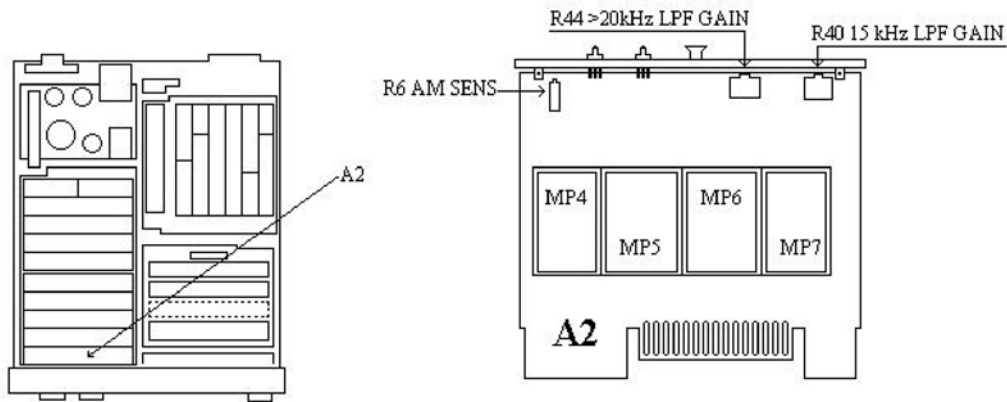
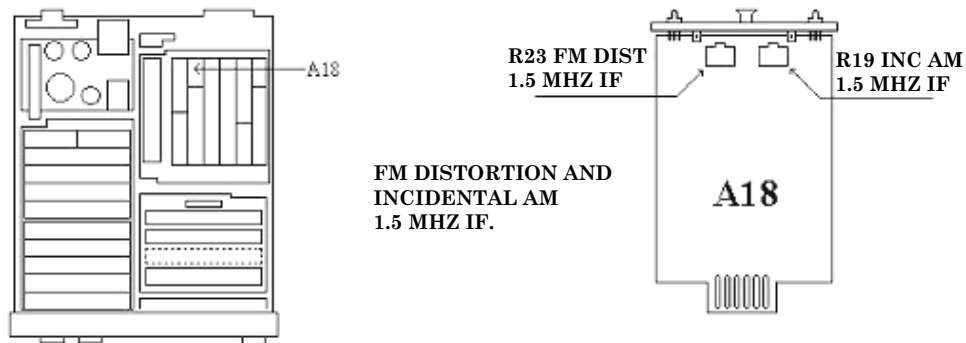
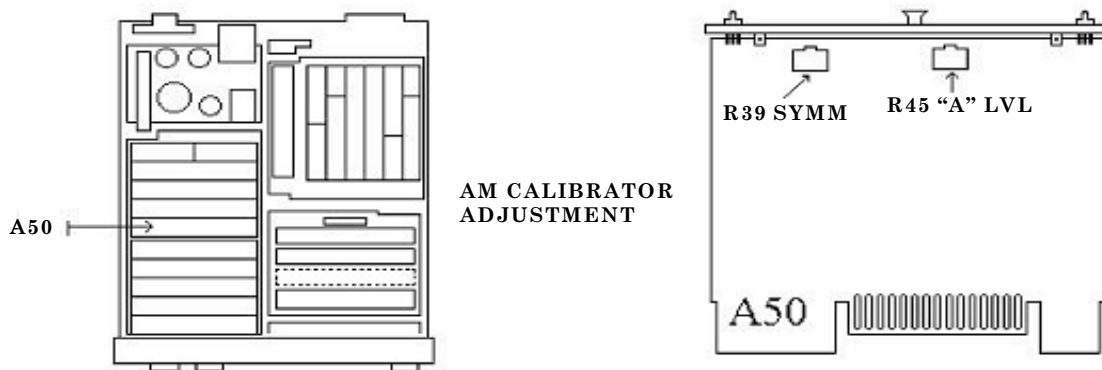

Figure 2. A2 board.
Figure 4. A18 board.
Figure 5. A50 board.
- (1) Disconnect equipment setup.
- (2) Press TI keys as listed in (a) through (f) below:
- (3) Connect TI sensor module to signal generator No. 1 **RF OUTPUT**.
- (4) Set signal generator No. 1 for an output frequency of 500 MHz at 3 dBm with 30 percent AM at a 1 kHz rate.
- (5) Adjust A2R44 >20kHz LPF GAIN (fig. 2) for a display of 99.95 to 100.05 percent (R).
- (6) Press TI **LP FILTER 15 kHz** key.
- (7) Adjust A2R40 15kHz LPF GAIN (fig. 2) for a display of 99.95 to 100.05 percent (R).
- (8) Disconnect TI sensor module from signal generator No. 1 **RF OUTPUT**.
- (9) Connect TI sensor module to TI **CALIBRATION RF POWER OUTPUT**.
- (10) Press TI keys as listed in (a) through (d) below:
- (17) Press TI keys as listed in (a) through (c) below:
- (18) Adjust AM/FM test source **CARRIER FREQUENCY TUNE** for a TI indication of approximately 400 MHz.
- (19) Press TI keys as listed in (a) and (b) below:
- (20) Adjust calibrator level for a TI indication of 400 kHz.
- (21) Switch TI **DETECTOR** between **PEAK+** and **PEAK-** and note the difference between the two indications.
- (22) Adjust A18R23 FM DIST 1.5 MHz IF (fig. 4) for equal indications between TI **PEAK+** and **PEAK-(R)**.
- (23) Press TI keys as listed in (a) and (b) below:
- (24) Switch TI **DETECTOR** between **PEAK+** and **PEAK-**. The difference should be <1.6 kHz. If not, adjust A18R23 FM DIST 1.5 MHz IF (fig. 4) to reduce the difference by one-half. Note the indications as PK1+ and PK1-.
- (25) Press TI **↑kHz** key.
- (26) Switch TI **DETECTOR** between **PEAK+** and **PEAK-**. Note the indications as PK2+ and PK2-.
- (27) TI is properly adjusted when $[(PK1+ - PK1-) + (PK2+ - PK2-)] < 1.6$ kHz.
- (28) Move connection from AM/FM test source **FM OUTPUT** to AM/FM test source **FM/4 OUTPUT**.
- (29) Press TI keys as listed in (a) and (b) below:
- (30) Set calibrator for a wideband output of 1 kHz at an amplitude of 250 mV.
- (31) Adjust calibrator output level for a TI indication of 50 kHz.
- (32) Press TI **MEASUREMENT AM** key.
- (33) Adjust A18R19 INC AM 1.5 MHz IF (fig. 4) for a minimum display <0.2 percent (R).
- (34) Disconnect equipment setup.
- (35) Connect TI sensor module to TI **CALIBRATION AM/FM OUTPUT**.
- (36) Press TI keys as listed in (a) and (b) below: